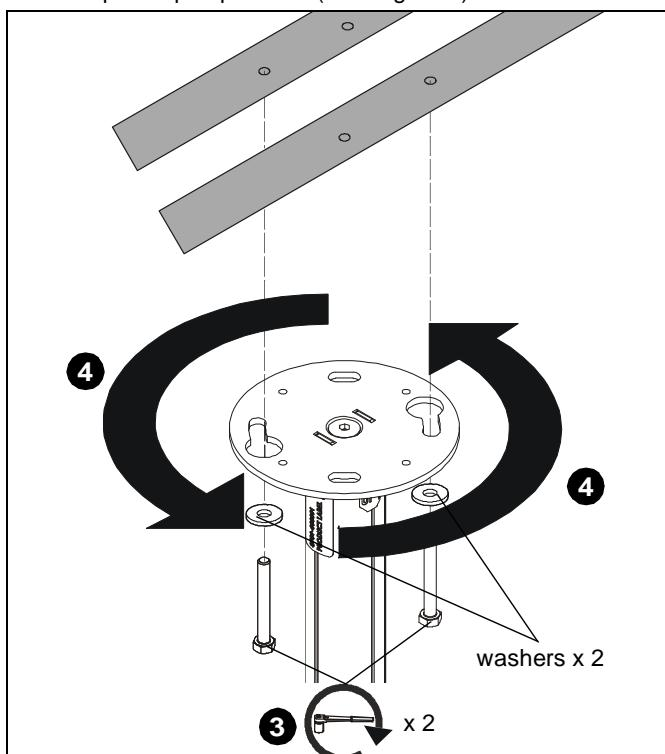

Figure 5
3. Loosely install two 5/16" x 2-3/4" (minimum) lag screws (not included) through two 5/16" washers (not included) into opposite corners of holes drilled in wood stud cross bracing. (See Figure 5)
4. Place ceiling plate up to ceiling and turn until lag screws hold plate up in position. (See Figure 5)